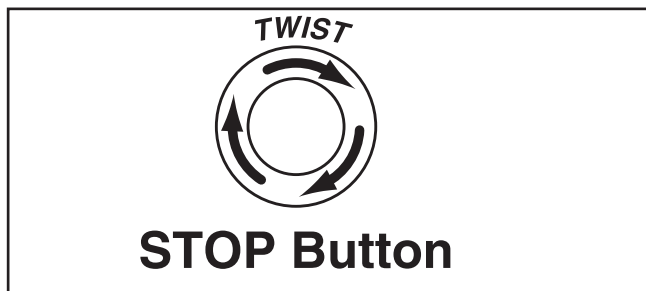

Figure 14. Resetting the switch.
4. Push the OFF button in, then twist it clockwise so it pops out. When the OFF button pops out, the switch is reset and ready for operation (see **Figure 14**).